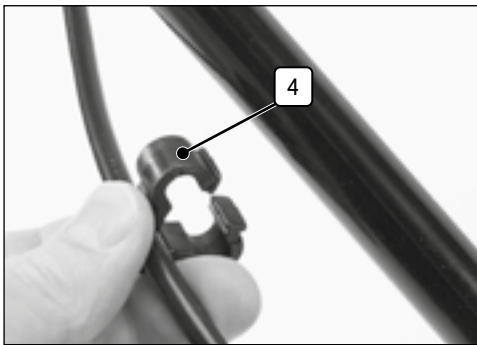

Fig. 5
6.4 Attaching Cord Clips 4 (Fig.5)